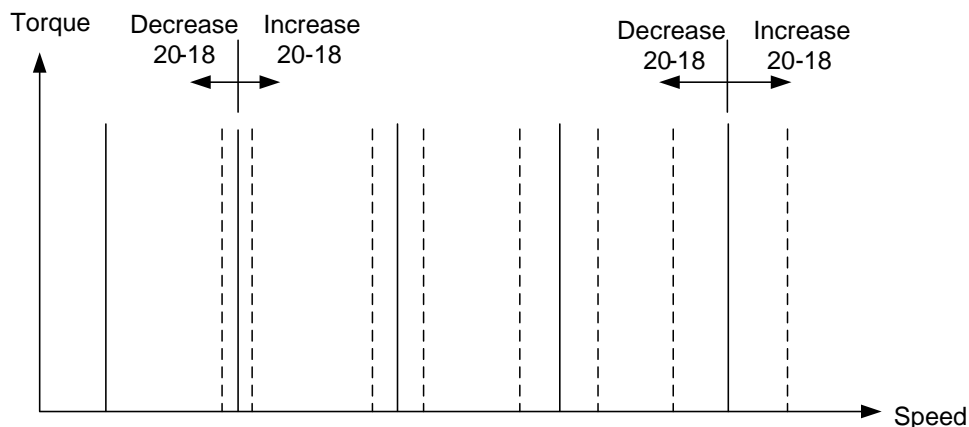

Figure 4.4.116 Effect on the torque-speed curve from 20-18
- Use parameter 20-18 to adjust the torque compensation gain for middle to high speed range. For most general purpose applications it is not necessary to adjust the 20-18. By tuning 20-18 an offset is added to the torque-speed curve. Increase 20-18 when the no-load speed is lower than the frequency reference. Decrease 20-18 when the no-load speed is higher than the frequency reference. The effect on the torque-speed curve from 20-18 is shown as the following figure 4.4.116.